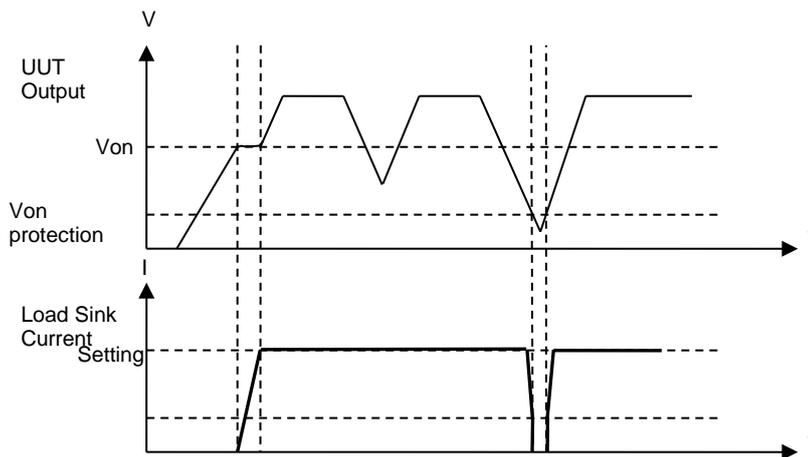

Figure 3-20 When Von Point is not set to 0V with Protection
- (3) When it is “LOAD ON”, Von Point is not set to 0V and Von Protection is enabled, switch the SW to on after it was turned off for a period of time and then turn it off again. There will be no current loading when the power is lower than the default protection voltage, and once the SW is turned off and the power is larger than the default voltage, the loading state will regain as Figure 3-20 shows.